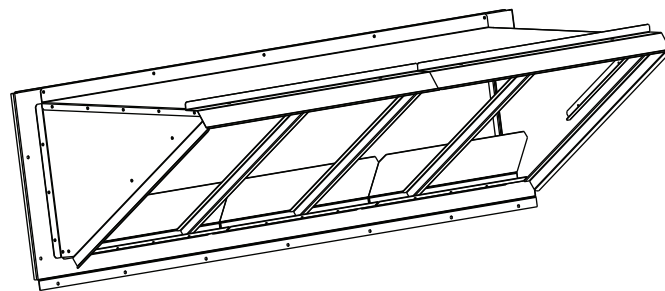

Fig. 22 — Completed Hood Assembly
12. Install outdoor air screens by sliding them into each of the four spaces created by the hood, filter support and central retainers. To do so, first insert the air screens into pocket created at the end of hood (Item 3), then fully put the air screen into place, and then slide them back into pocket created in the filter support (Item 1). Repeat this for each air screen (see Fig. 21). See Fig. 22 for completed hood assembly.